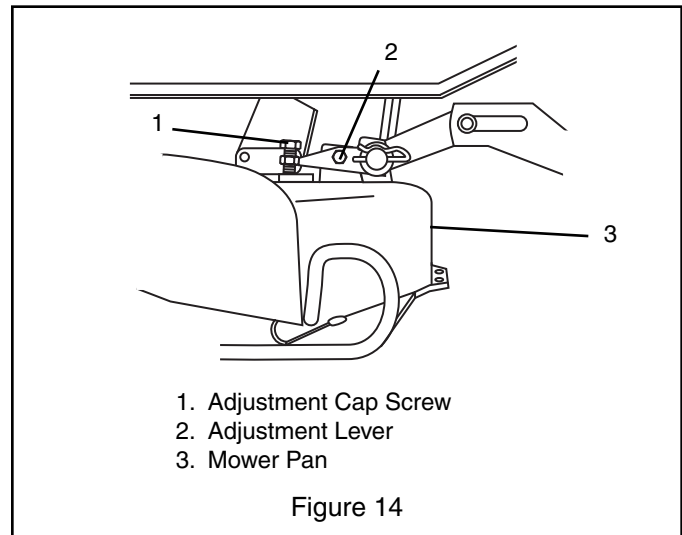

Figure 14
3. Loosen nuts on adjustment levers (Figure 14).